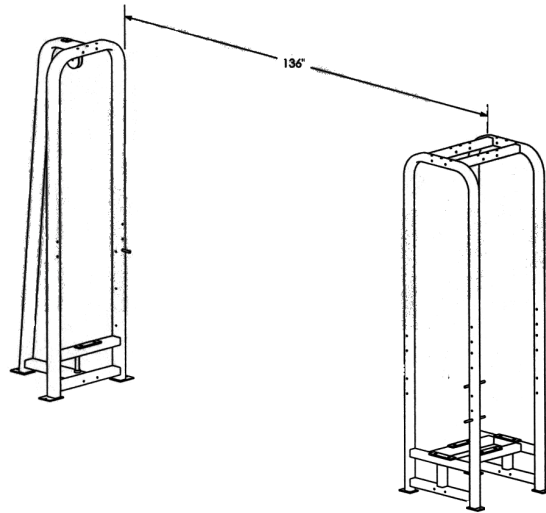

Figure 3. Set the weight stack cells.
1. **Place the two weight “cells”** in their final resting spots. The cells will be approximately 11’4” apart as shown in Figure 3.
Hardware Figure 3 shows the types of cables that are included with the SM50.
Hardware Figure 3. Cables.